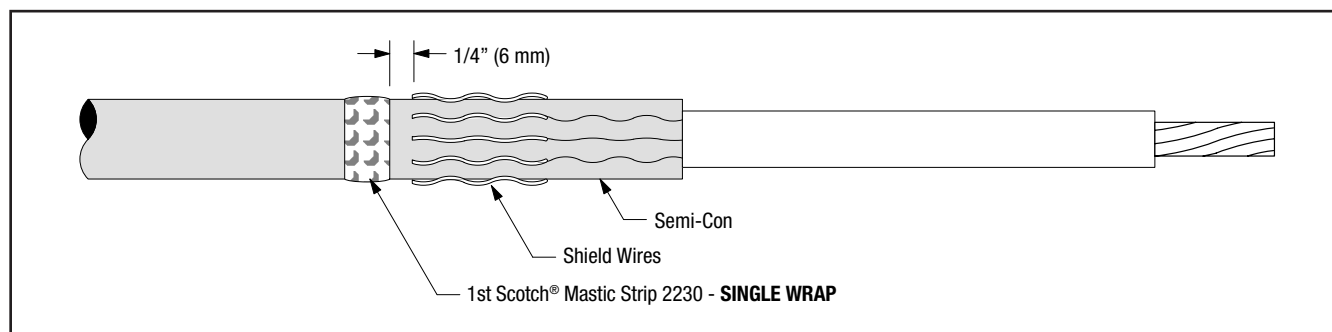

Figure 21
- 13.1 Select a Scotch® Mastic Strip 2230 from kit and remove white release liners. Using light tension, apply a **SINGLE WRAP** of mastic around the cable semi-conductive jacket 1/4" (6 mm) from shield wires (Figure 21). Cut off excess.